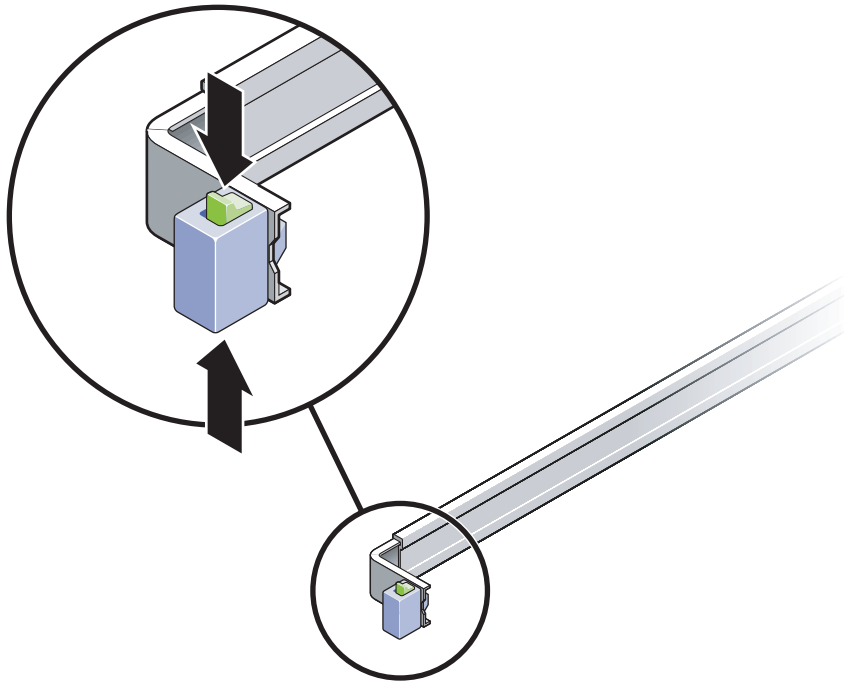

FIGURE 2-14 Unlocking the Slide Rail Assembly
- a. Simultaneously press and hold the upper and lower lock buttons of the slide rail lock (FIGURE 2-14).